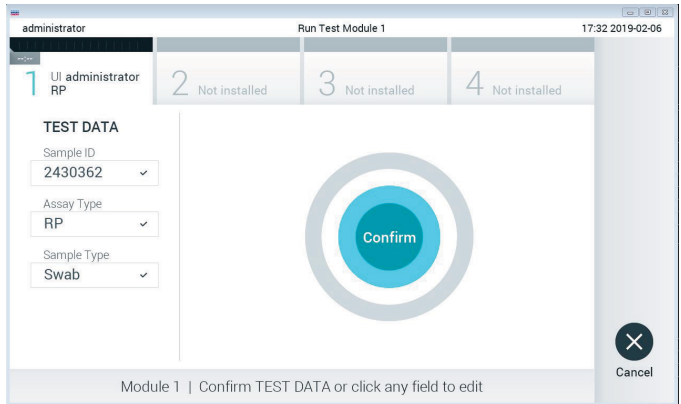

Figure 14. Confirming data entry.
17. Press **Confirm** when all the displayed data are correct. If needed, select the appropriate field to edit its content, or press **Cancel** to cancel the test (Figure 14).